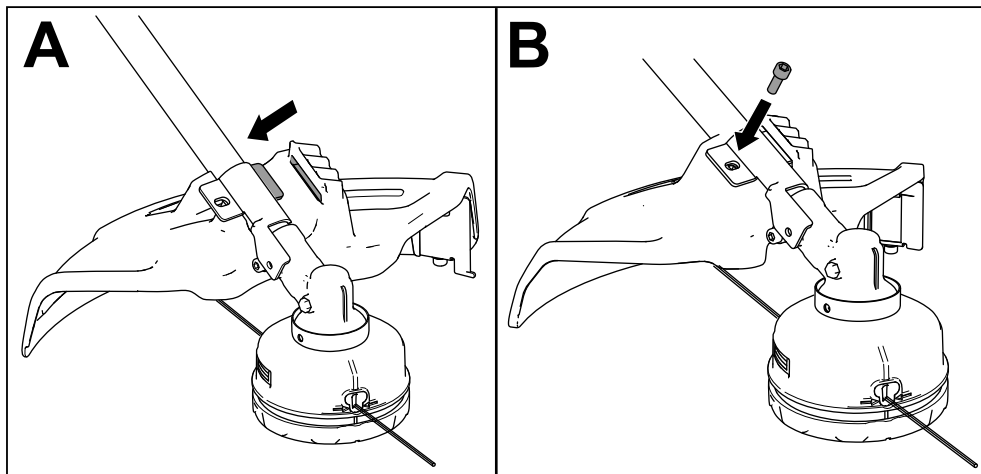

Figure 4
1. Align the guard so that the tab on the mount slides into the slot (A of Figure 4).
2. Install and tighten the socket-head screw to secure the guard to the mount (B of Figure 4).